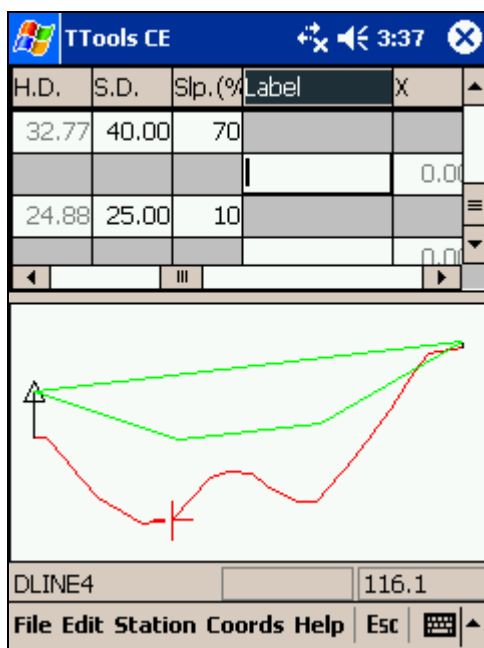

Figure 9.1: Cable Deflection Line
12. Tap OK to accept the changes. Your new D-Line should be visible as shown in figure 9.1.